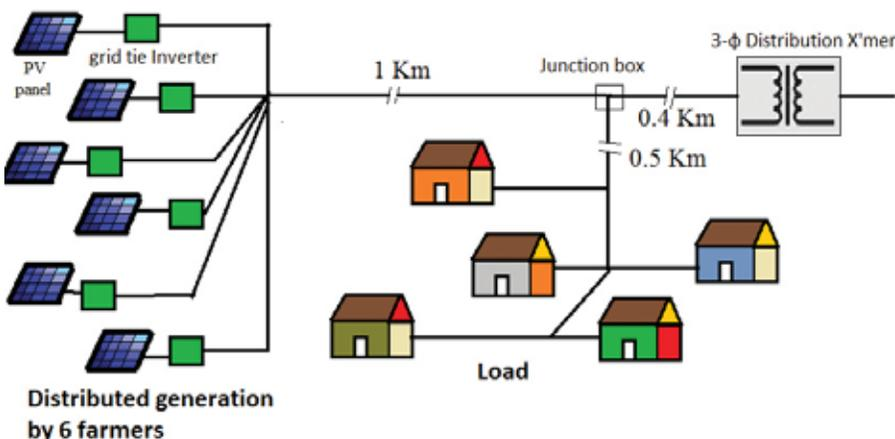
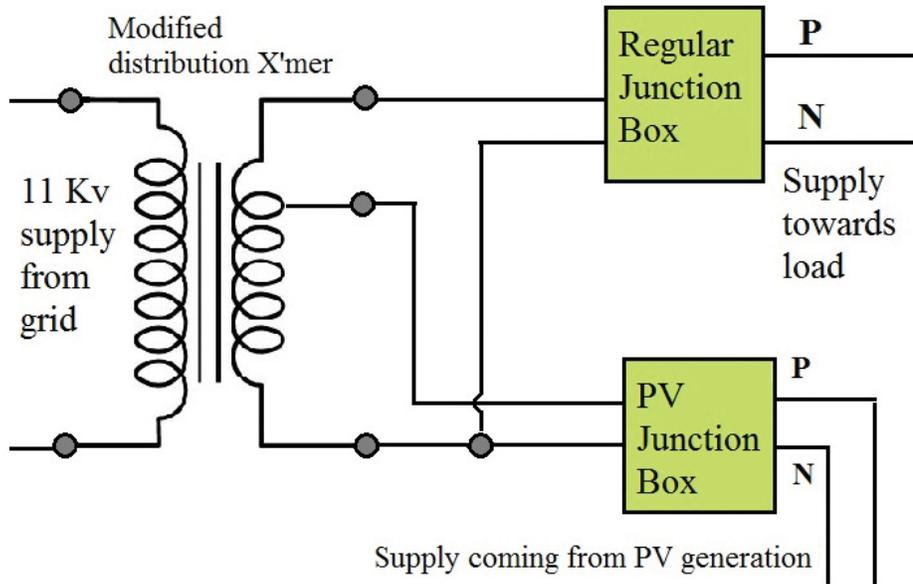

Figure 6: Line diagram of Dhundi village
Figure 7: Modifications proposed for Dhundi village
We studied the problem of overvoltage being faced by the farmers of the solar pump co-operative at Dhundi village, in the Anand District of Gujarat. This co-operative was formed by bringing together six vegetable farmers in Dhundi village (see Figure 6). The solar pumps were connected to the power grid of the local electric utility – Madhya Gujarat Vij Company Limited (MGVCL), and a 25 year power purchase agreement was signed allowing the farmers to sell back the surplus energy at a rate of ~ 4.63 per kWh equivalent of solar energy.
About 400 meters further down from the junction box (see Figure 6), we
Hence, the minimum changes that we recommend in our proposal are as follows (see Figure 7):
2. **Shift the PV injection point:** On the secondary side of the modified transformer we would now observe two junction boxes (see Figure 7). The 260 Volts (Nominal rated: 240 V) secondary output winding gets terminated in the regular junction box that is feeding the Dhundi village load. On the other hand, the 234 Volts (Nominal rated: 216 V) secondary output winding would be terminated in the PV junction box (see Figure 7). This means that for Dhundi village, the PV grid cables need to be extended further by another 400 meters to this new PV junction box from where the PV power would get injected into the utility grid system (also see Figure 6).
We consider this proposal as the most elegant, since the changes are minimal, and so is the cost. This proposal is best suited for Dhundi, as the co-operative has already invested in laying a separate PV grid till the feed junction point or the Point of Common Coupling (PCC) that is located close to the transformer center. Under the proposed modifications, the new PV Junction box becomes the PCC and hence the PV grid needs to be extended further by 400 meters (see Figure 6 and Figure 7).